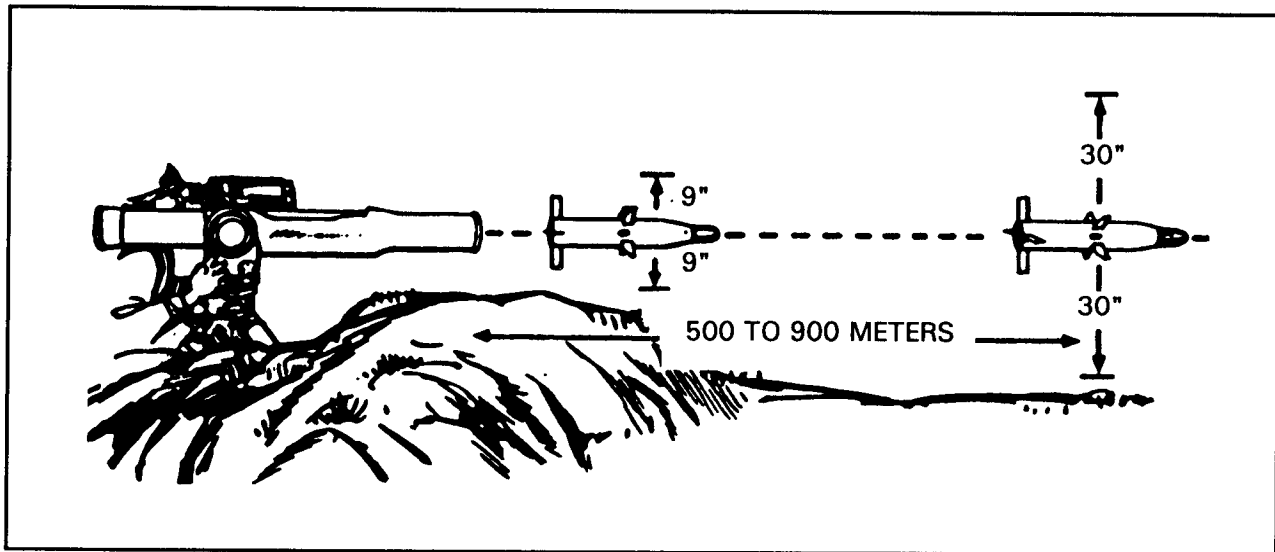

Figure 2-3. Clearance requirements.
**f. Clearance Requirements.** The TOW muzzle must have at least nine inches of clearance at the end of the launch tube so the wings and control surfaces of the missile will not be damaged when they extend after clearing the launch tube. The muzzle of the launch tube must extend beyond any enclosure, window sill, or aperture, and at least 30 inches of clearance must be between the line of sight and any obstruction from 500 to 900 meters downrange. A 30-inch line-of-sight clearance ensures a high probability the missile will not strike the ground on the way to the target (Figure 2-3, page 2-10).